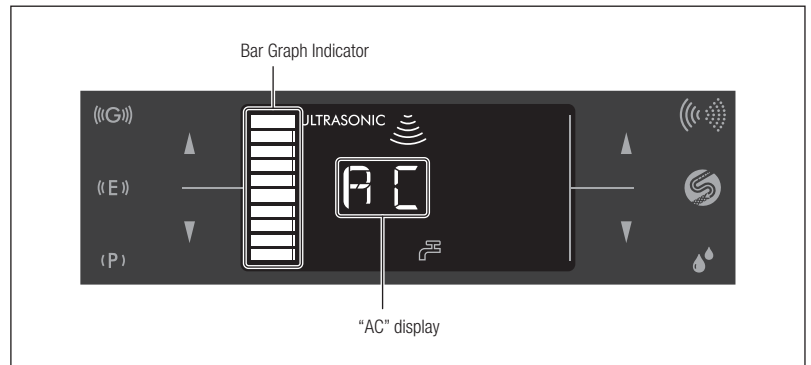

Fig. 34
- 7) Touch and hold the Auto-Cleaning Key for about 3 seconds to start Auto-Cleaning. Auto-Cleaning takes about 45 seconds. "AC" is displayed on the LCD Panel during Auto-Cleaning and the approximate remaining time is displayed in the Bar Graph Indicator (Fig. 34).